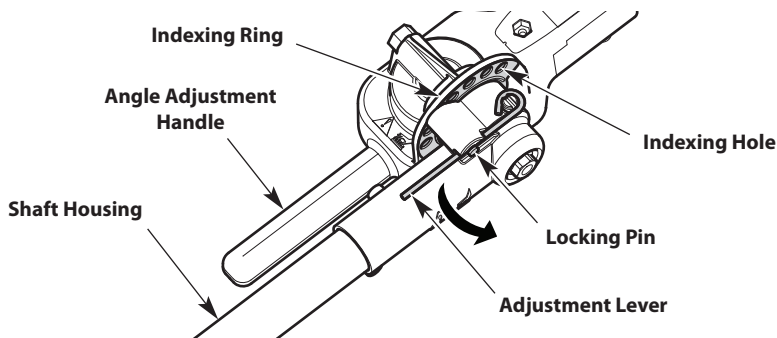

Fig. 15
1. Hold the angle adjustment handle (Fig. 15) with the left hand. Hold the shaft housing (Fig. 15) with the right hand.
2. With the right thumb, push the adjustment lever (Fig. 15) away from the indexing ring to unseat the locking pin (Fig. 15).
4. Align the locking pin with the desired indexing hole in the indexing ring (Fig. 15).